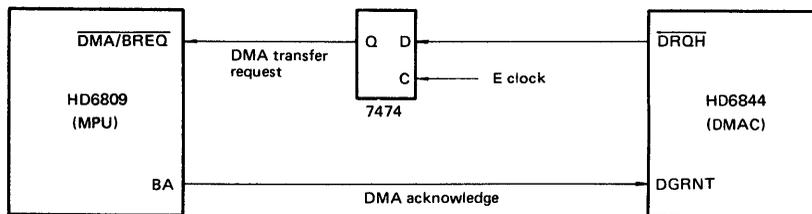
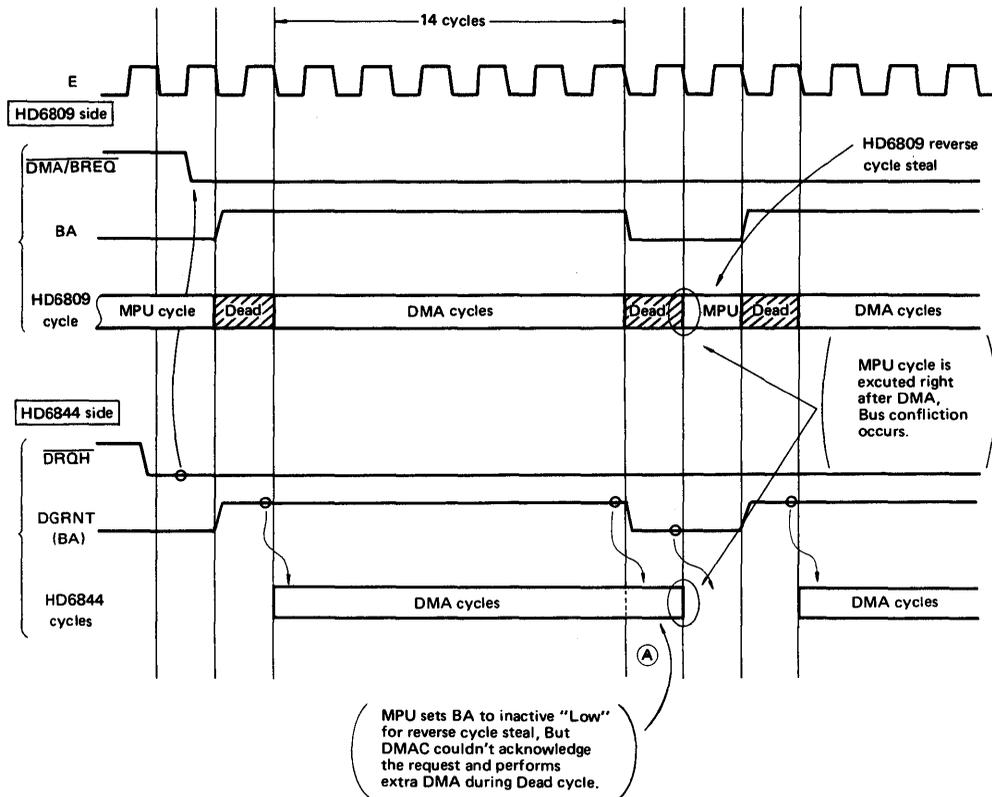

Figure 24 An Example of HD6809, HD6844 System
Figure 25 Comparison of HD6809, HD6844 DMA cycles
(The restriction is also applied to the system which doesn't use 7474 Flip-Flop. Fig. 24, Fig. 25 shows an example which uses 7474 for synchronizing DMA request with E.
As shown in Fig. 25, DMA controller can't stop DMA transfer (A) by BA falling edge and excutes an extra DMA cycle during HD6809 dead cycle. So MPU cycle is excuted right after DMA cycle, the Bus confliction occurs at the beginning of MPU cycle.